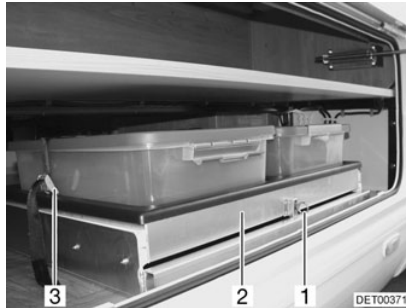

Fig. 15 Sliding drawer
- Pull the safeguard (Fig. 15,1) upwards.
- Pull out the sliding drawer (Fig. 15,2).
- Loosen the tension belts (Fig. 15,3).